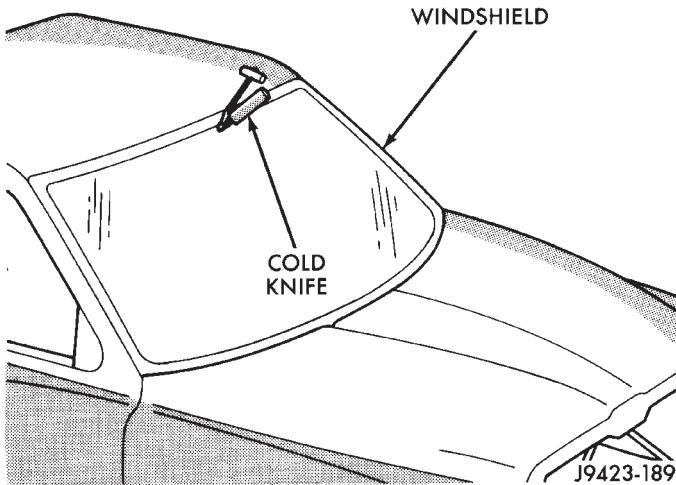

Fig. 1 Cutting Urethane Around Windshield—Typical INSTALLATION—SHORT METHOD
(5) Using a cold knife, cut the urethane around the perimeter of the windshield (Fig. 1).
(6) Remove the windshield glass from the frame.